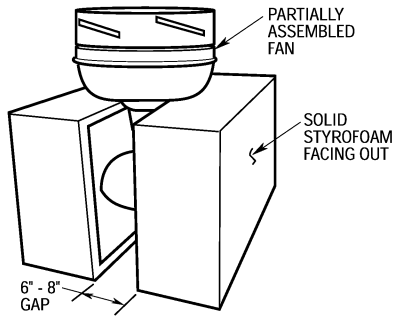

Figure 5
- 7. Turn fan motor assembly upside down in preparation for mounting fan blades. Position the top and bottom halves of the styrofoam packaging on end, with solid styrofoam facing outward. Set side-by-side on the floor with a six to eight-inch gap between the halves (Figure 5). Carefully place the partially assembled ceiling fan on the styrofoam halves, with the hanger ball/downrod assembly positioned in the gap and the fan motor assembly resting on top of the styrofoam ends.